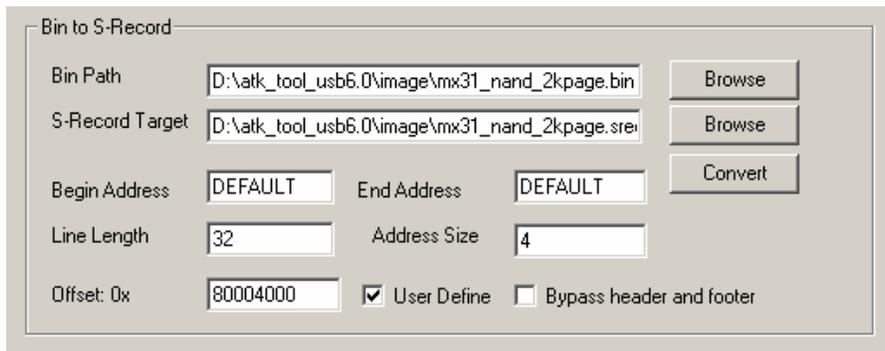
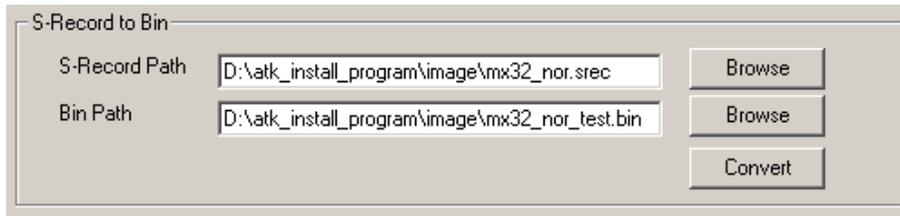
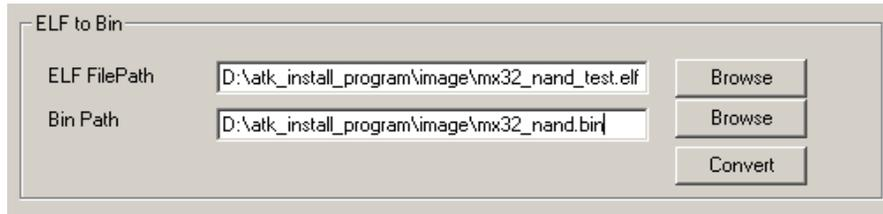

Figure 5-3 Bin to S-Record Example
Figure 5-4 S-Record to Bin Example
Figure 5-5 ELF to Bin Example
- For examples of option choices, see Figure 5-3, Figure 5-4, and Figure 5-5.
Figure 5-3 illustrates converting a binary formatted file to an S-record format.
Figure 5-4 illustrates converting an S-record formatted file to a binary file format.
Figure 5-5 illustrates converting an ELF formatted file to a binary file format.